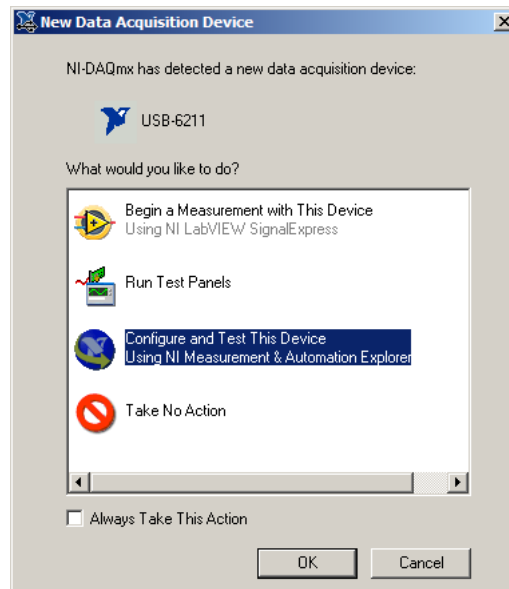

Figure 2.1: Pop-up window on device detection.
2. A message (Figure 2.1) should appear on the screen indicating that the data acquisition device has been detected.